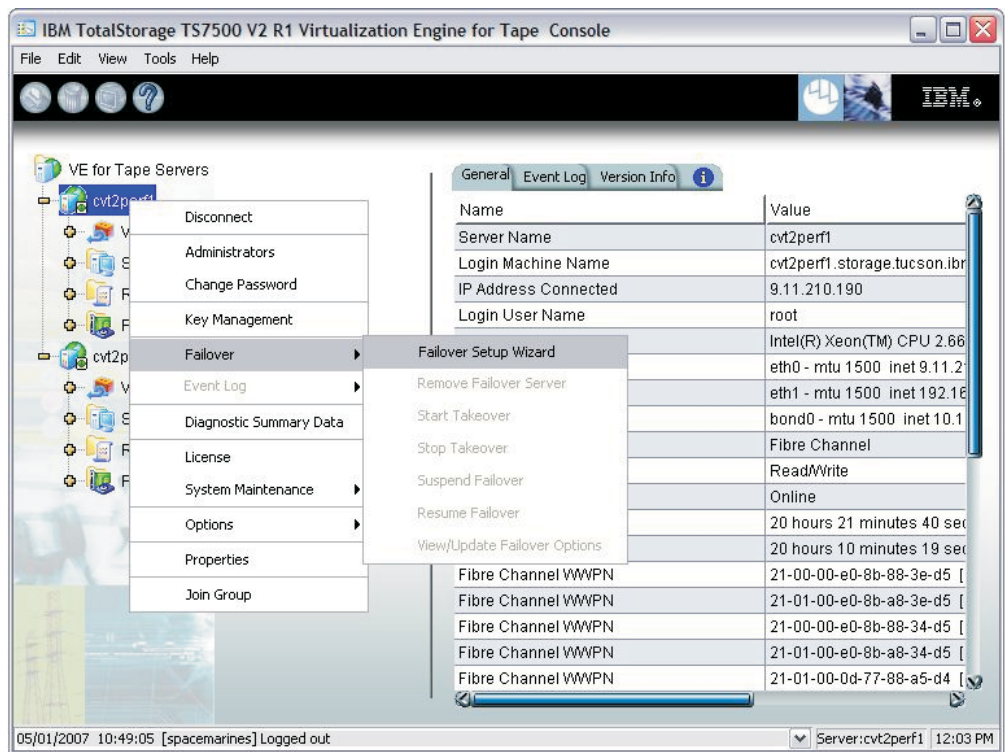

Figure 65. Starting the Failover Setup Wizard
9. ___ Right-click the icon for one of the servers and then click **Failover** → **Failover Setup Wizard**. Figure 65 shows this step for the lower server. The Failover Setup Wizard starts.